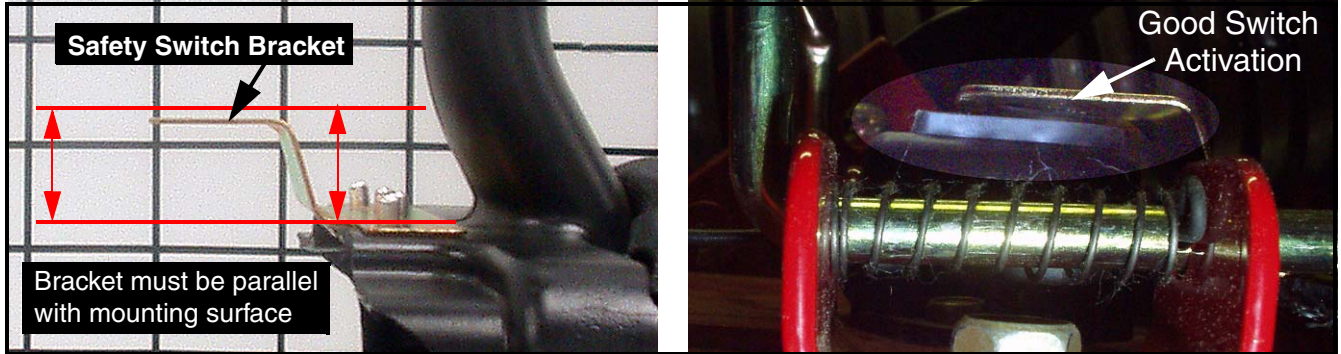

FIGURE 1
1. Inspect the Chute Assembly to ensure that the safety switch bracket is formed as shown in Figure 1.
3. To correct a bent safety switch bracket, use a pair of pliers and grip the safety switch bracket's tab as shown in Figure 3. While holding the chute assembly from moving, apply a bending moment in the direction necessary to bring the tab into the position shown in Figure 1.